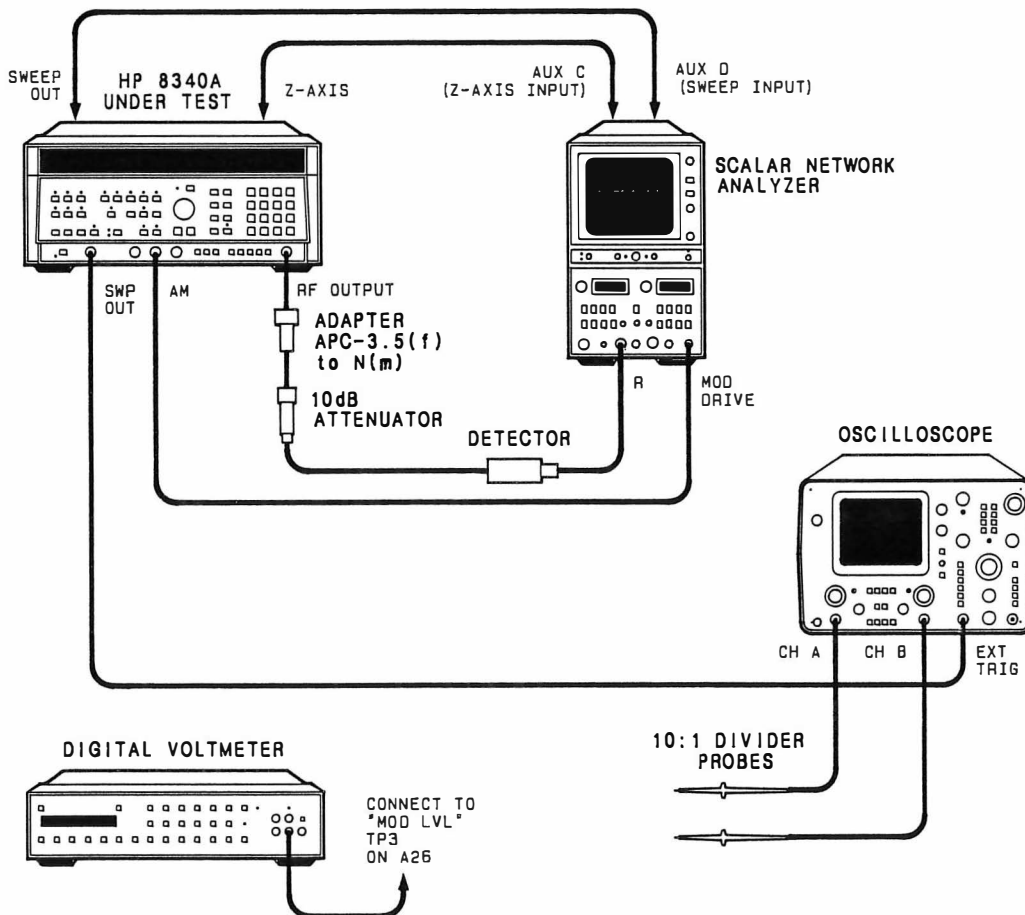
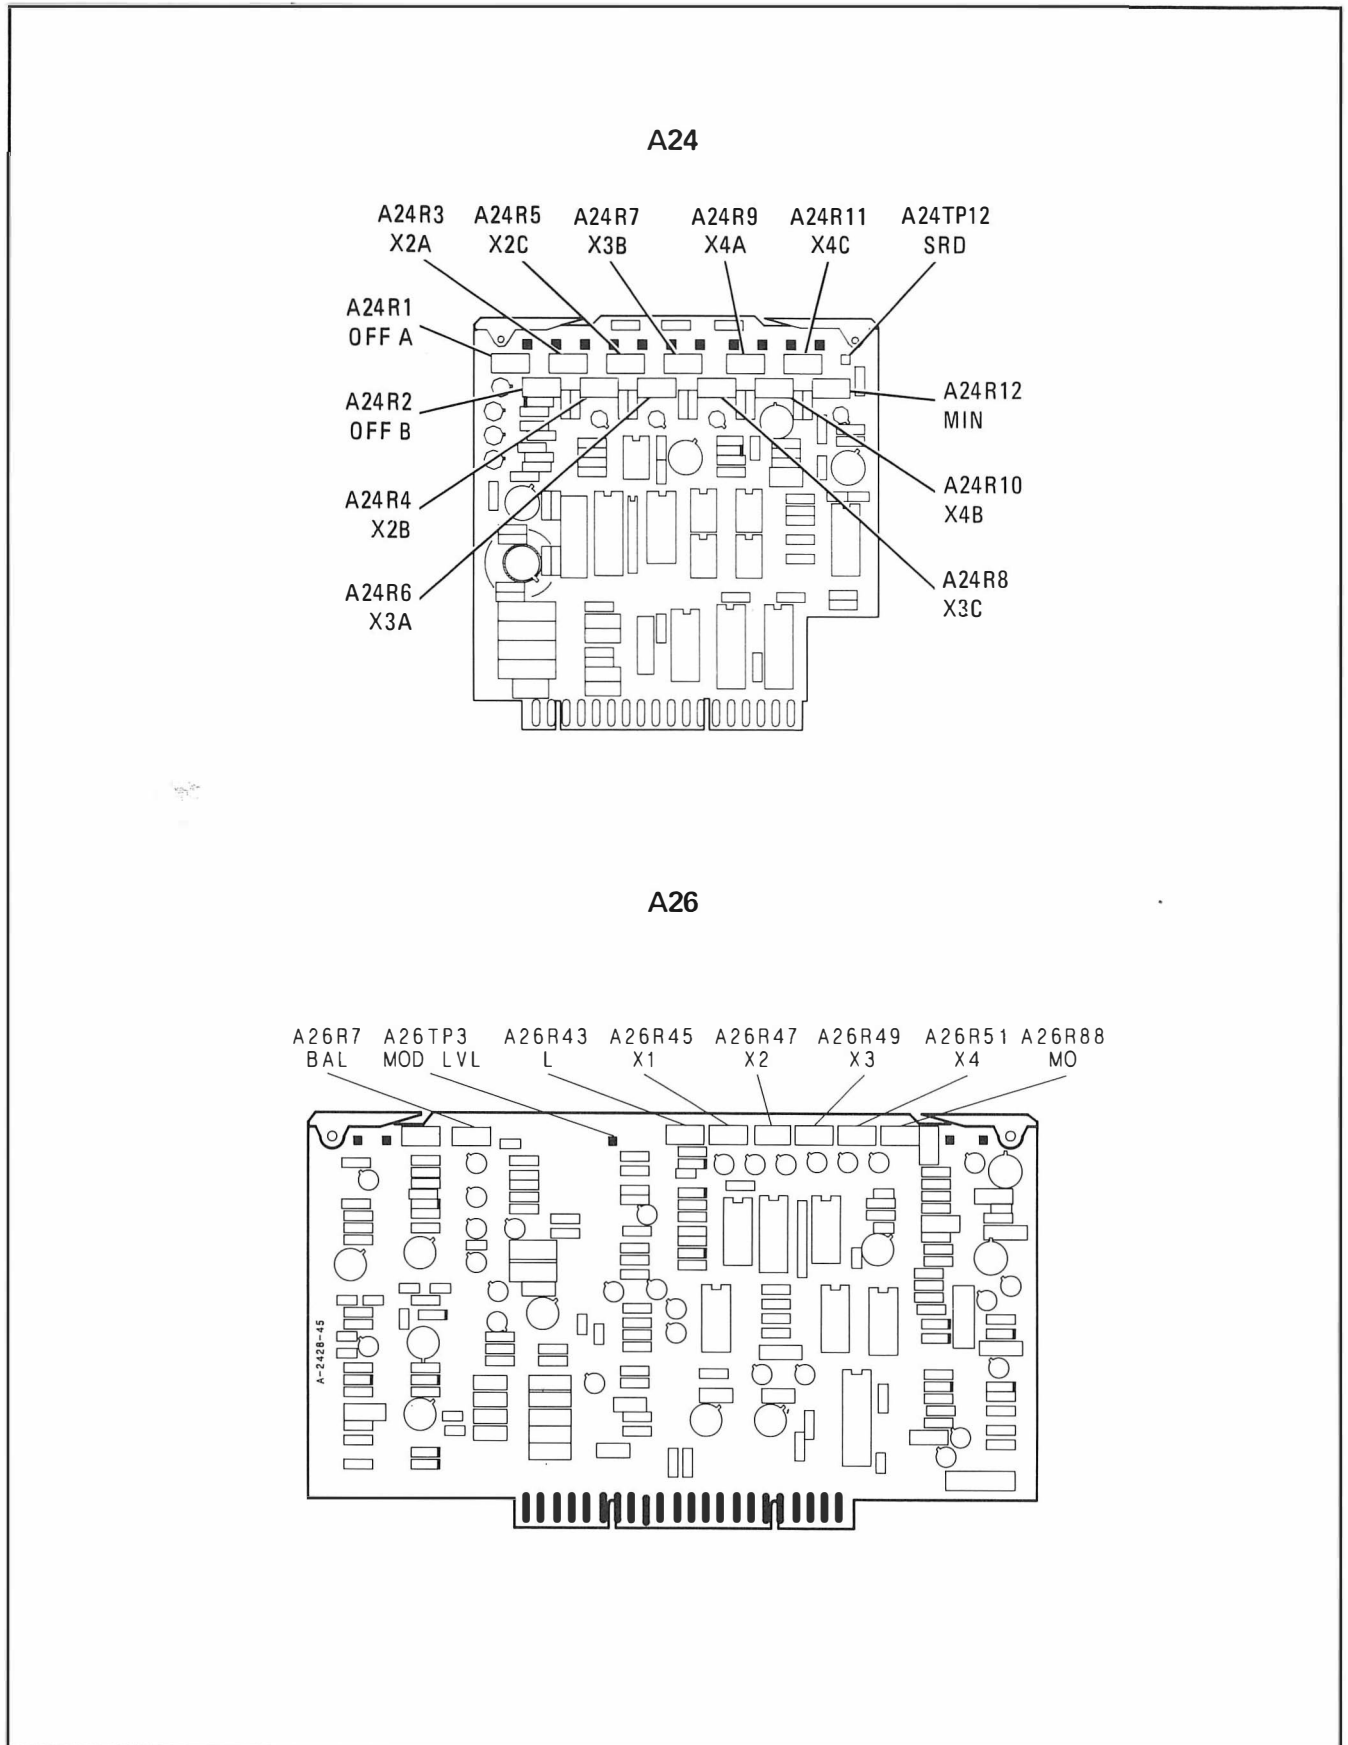

Figure 5-49. Leveled Power SRD Bias Adjustment Test Setup
Figure 5-50. SRD Bias Adjustments on A24 and A26
1. Connect equipment as shown in Figure 5-49. Connect the DVM to A26TP3 (MOD LVL). Preset A26R88 (MO) fully clockwise (Figure 5-50). Allow at least 30 minutes warm up.
3. Adjust the front panel rotary knob for a DVM indication of 0.00 volts, then note the POWER dBm display indication. Adjust A26R88 (MO) CCW to decrease the POWER dBm indication by 0.2 dB.
Set A24R1 (OFF A) (Figure 5-50) and A24R2 (OFF B) controls fully counter clockwise.
15. Remove oscilloscope probes from the HP 8340A. Connect the HP 8340A to the 8755C as shown in Figure 5-49. Press HP 8340A **[INSTR PRESET]** and **[RECALL] [2]**. Press **[SHIFT] [PWR SWP]** and enter **[2] [0] [dBm]**. Press **[SHIFT] [PULSE]**. Press **[SWEEP TIME] [AUTO]**.